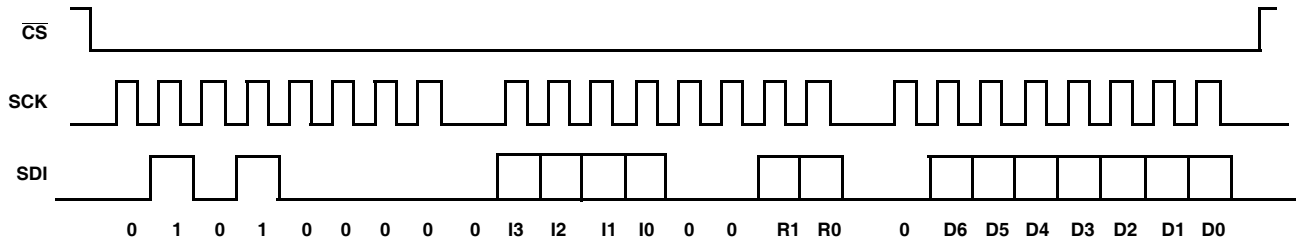

FIGURE 16. THREE BYTE WRITE SEQUENCE
by Data Byte is sent to SDI pin. The host terminates the write operation by pulling the  $\overline{\text{CS}}$  pin from LOW to HIGH. For a write to address 0 (WR), the byte at address 2 (ACR<7>) determines if the Data Byte is to be written to volatile or both volatile and non-volatile registers. Refer to "Memory Description" on page 10 and Figure 16.